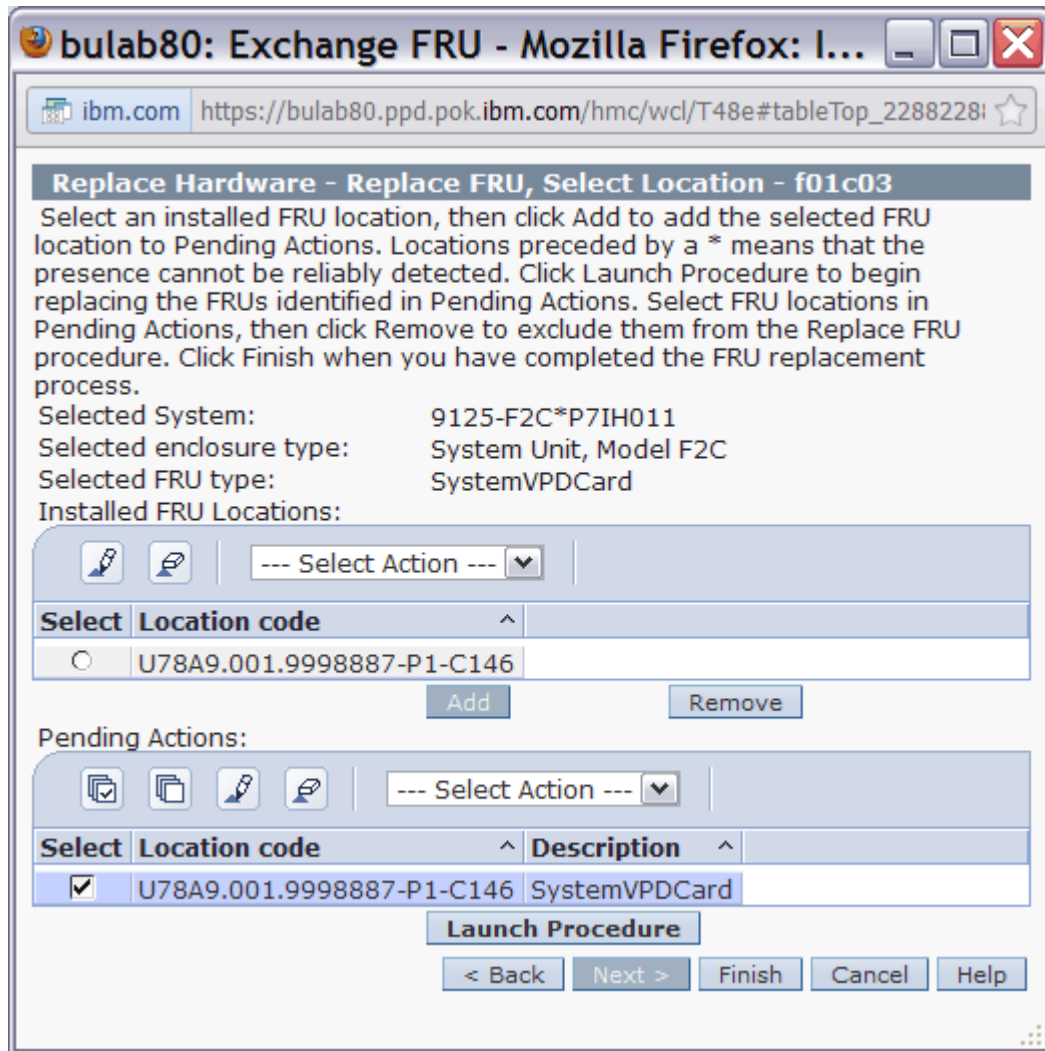

Figure 9 Pending Actions Panel
STEP 16 In the **Pending Actions** list, place a checkmark in the **Select** column for the CEC Drawer to be serviced then *click* the **Launch Procedure** button. See Figure 9.